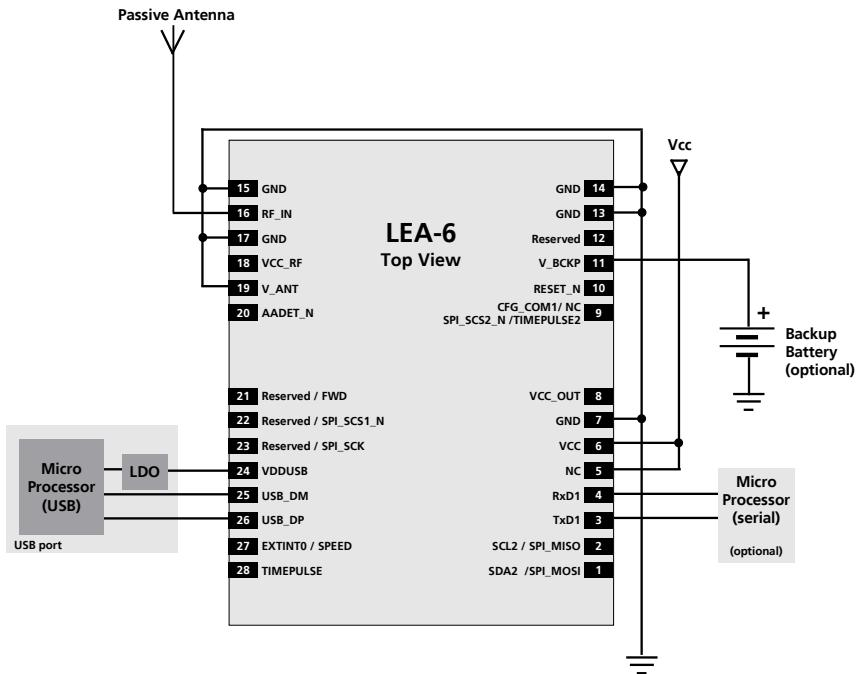
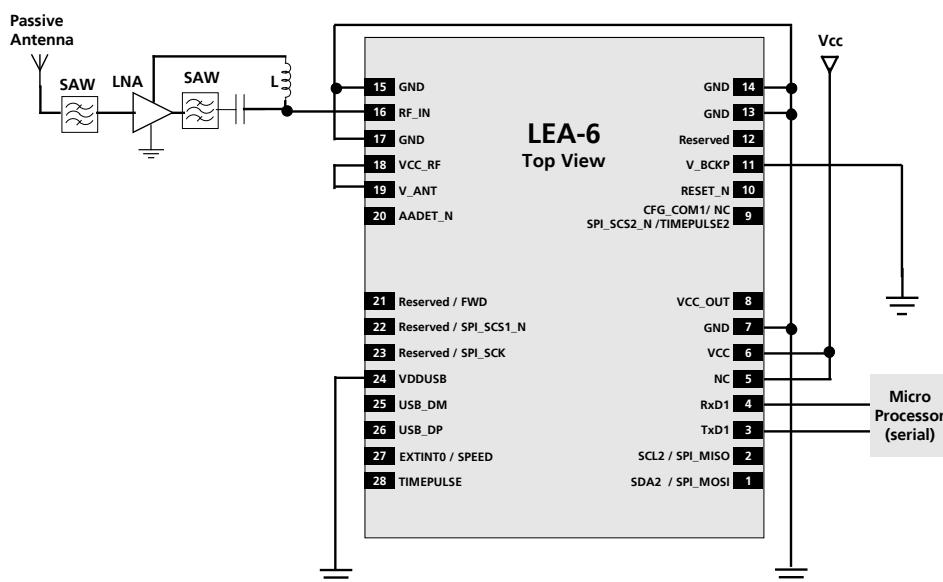

Figure 12: LEA-6 passive antenna design with USB port
Figure 15: LEA-6 passive antenna design for best performance and increased immunity to jammers such as GSM
- For best performance with passive antenna designs use an external LNA to increase the sensitivity up to 2 dB. See figure 12 and Figure 15.